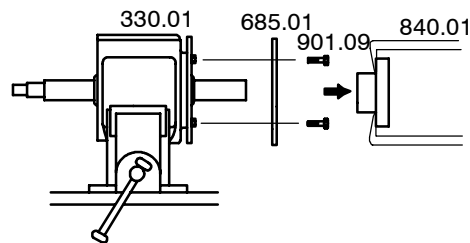

Fig. 6
- 1 Fasten the bearing unit firmly to a vice at the bearing housing (330.01). Fig. 6.
- 4 Loosen the hexagonal screws (901.05) which tighten the bearing carrier. Fig. 6.
- 5 Rotate bearing carrier counterclockwise until shaft assembly can be taken away from bearing housing (330.01). Fig. 6.
- 13 Rotate from the bearing carrier to clockwise to set the shaft assembly into the bearing housing. Fig. 12. See also Fig. 6 in section Preventive maintenance.